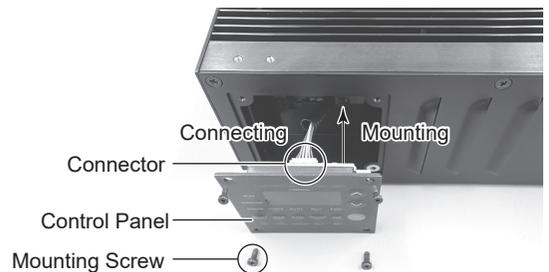

Fig. 39
- (3) Connect the connector inside the CONTROLLER to the connector of the rear of the Control Panel (Fig. 39).
- (4) Re-attach the Control Panel using the 4 mounting screws (Fig. 39).